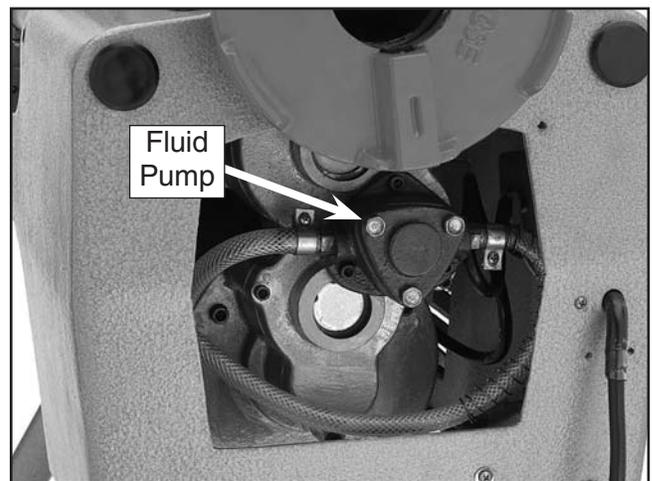

Figure 29. Location of fluid pump.
1. Remove the motor access cover (held in place by two screws) to expose the fluid pump, as shown in **Figure 29**.